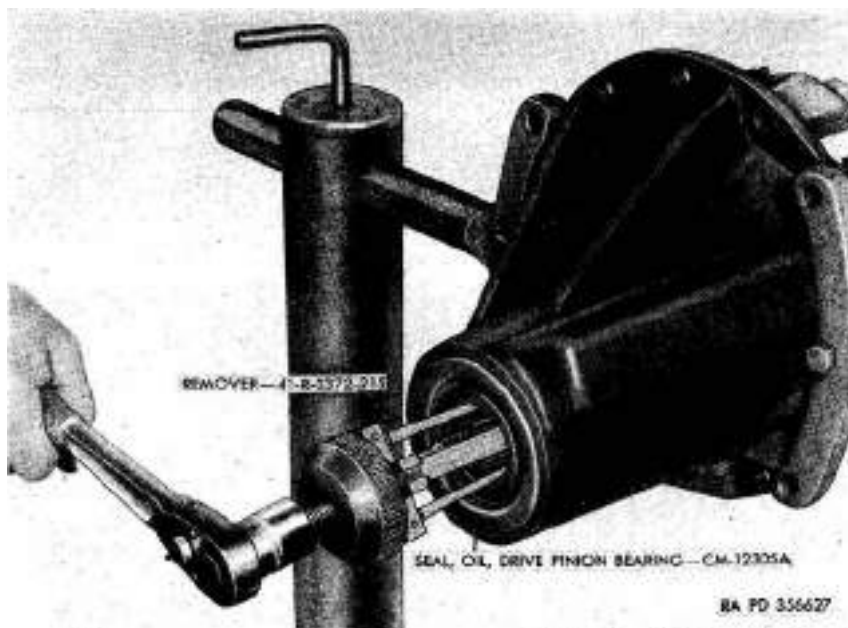

Figure 77. Removing drive pinion bearing oil seal.
- (5) Remove drive pinion bearing oil seal (D) with remover 41-R-2372-215 (fig. 77).